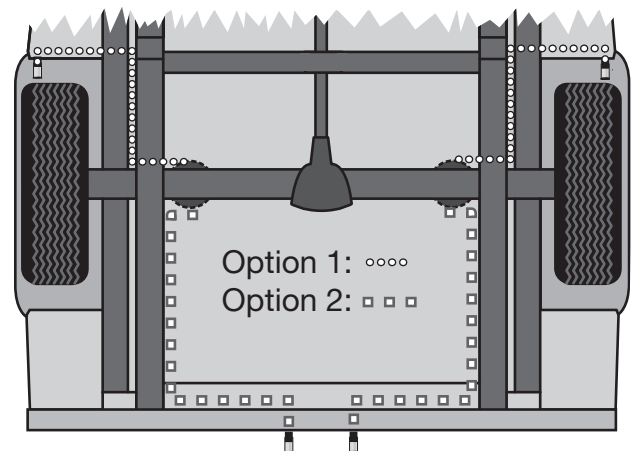

fig. 20
4. Place a 5/16" nut and star washer on the air valve. Leave enough of the inflation valve in front of the nut to extend through the hole and have room for the rubber washer, flat washer, and 5/16" nut and cap. There should be enough valve exposed after installation – approximately 1/2" – to easily apply a pressure gauge or an air chuck (Fig. 20).